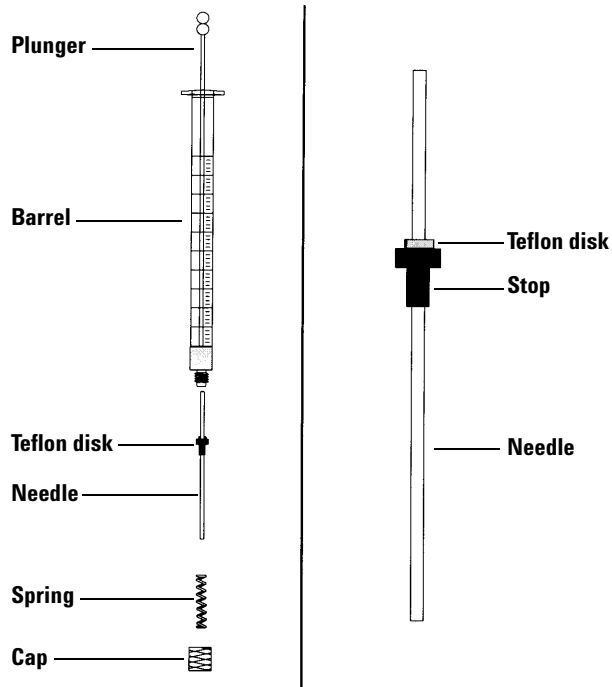

Figure 68 Syringe parts
To insert a needle into a syringe barrel (Figure 68):
- 2 Make sure the needle has a Teflon disk (Figure 68). If the syringe barrel does not have the Teflon disk, use the instructions in the syringe box to wrap the needle yourself.